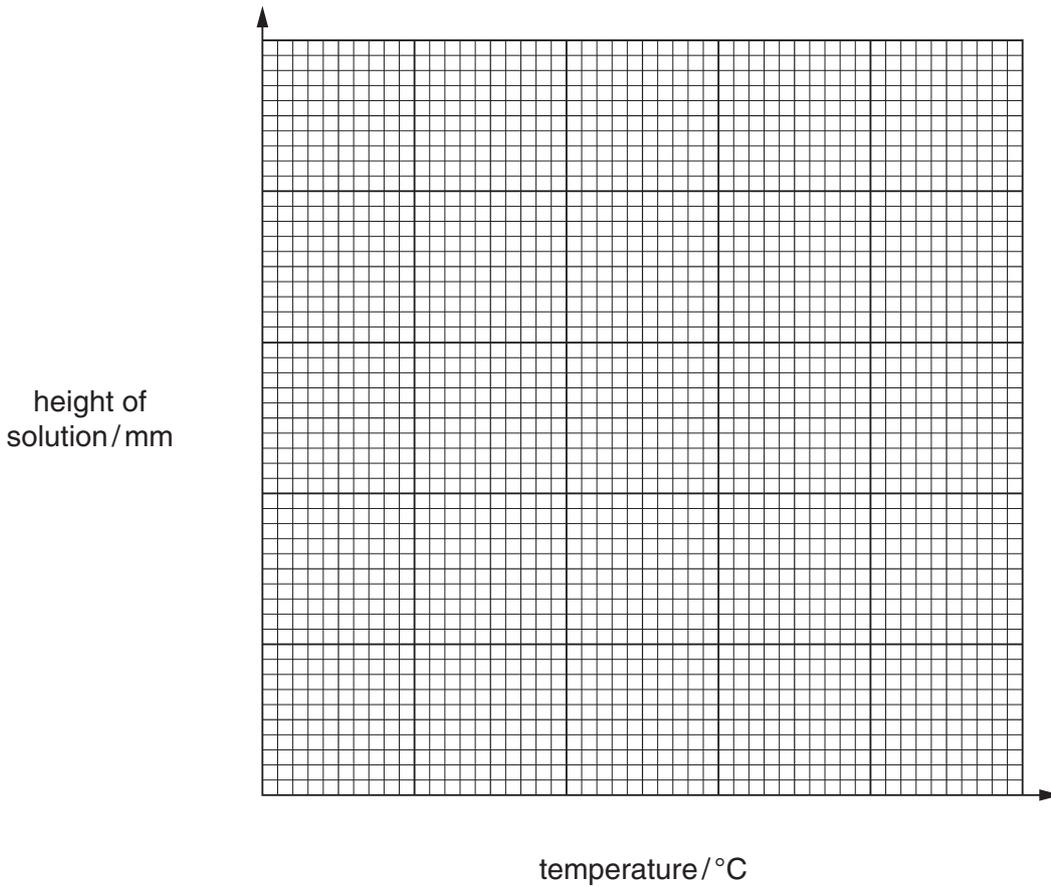

Fig. 1.6
- (iii) The students found that the sugar solution expands more than the chocolate as the temperature rises. Use the graph below, Fig. 1.6, to sketch straight line graphs showing the expansion of these two materials. You should label each line. [2]